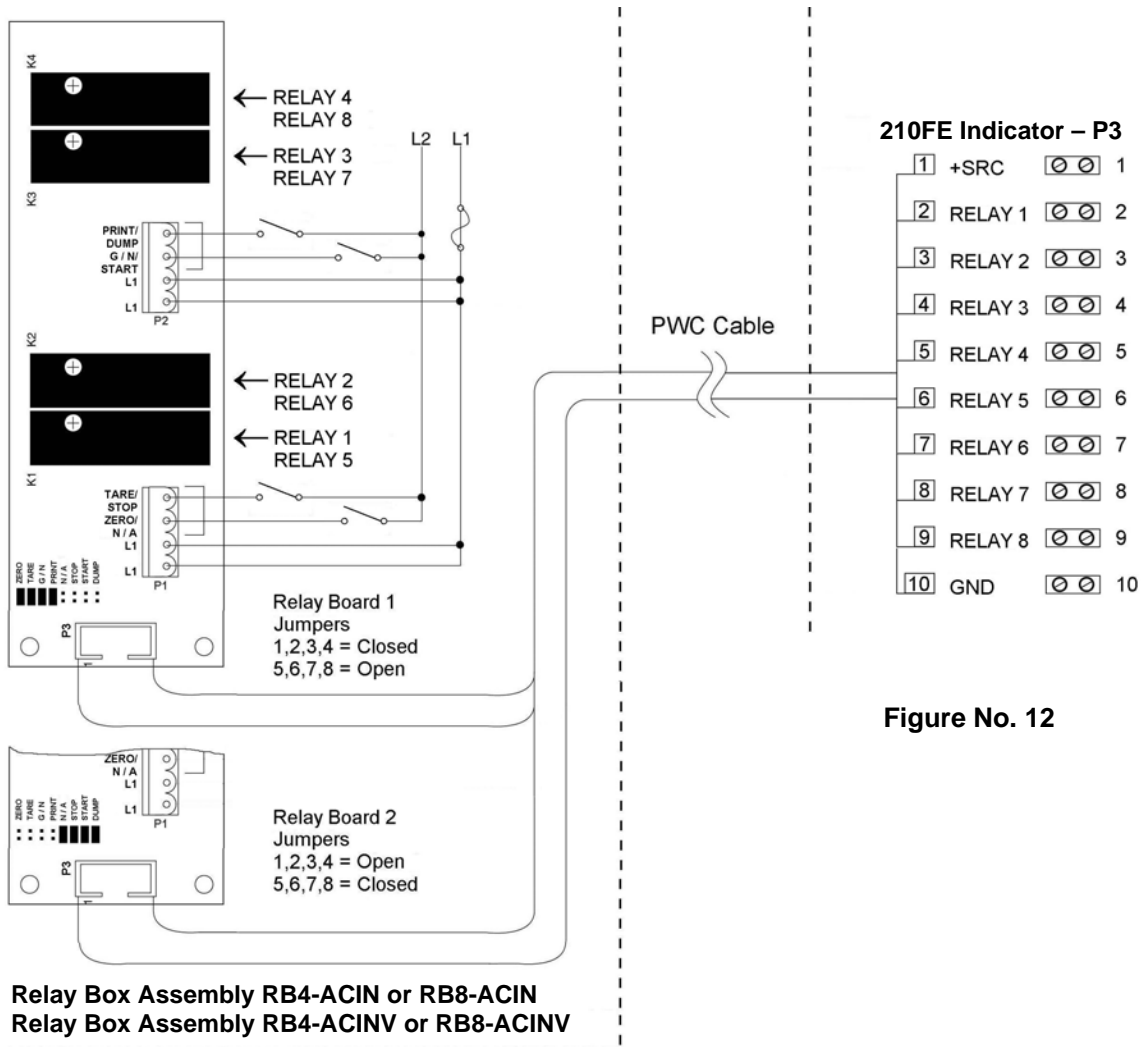
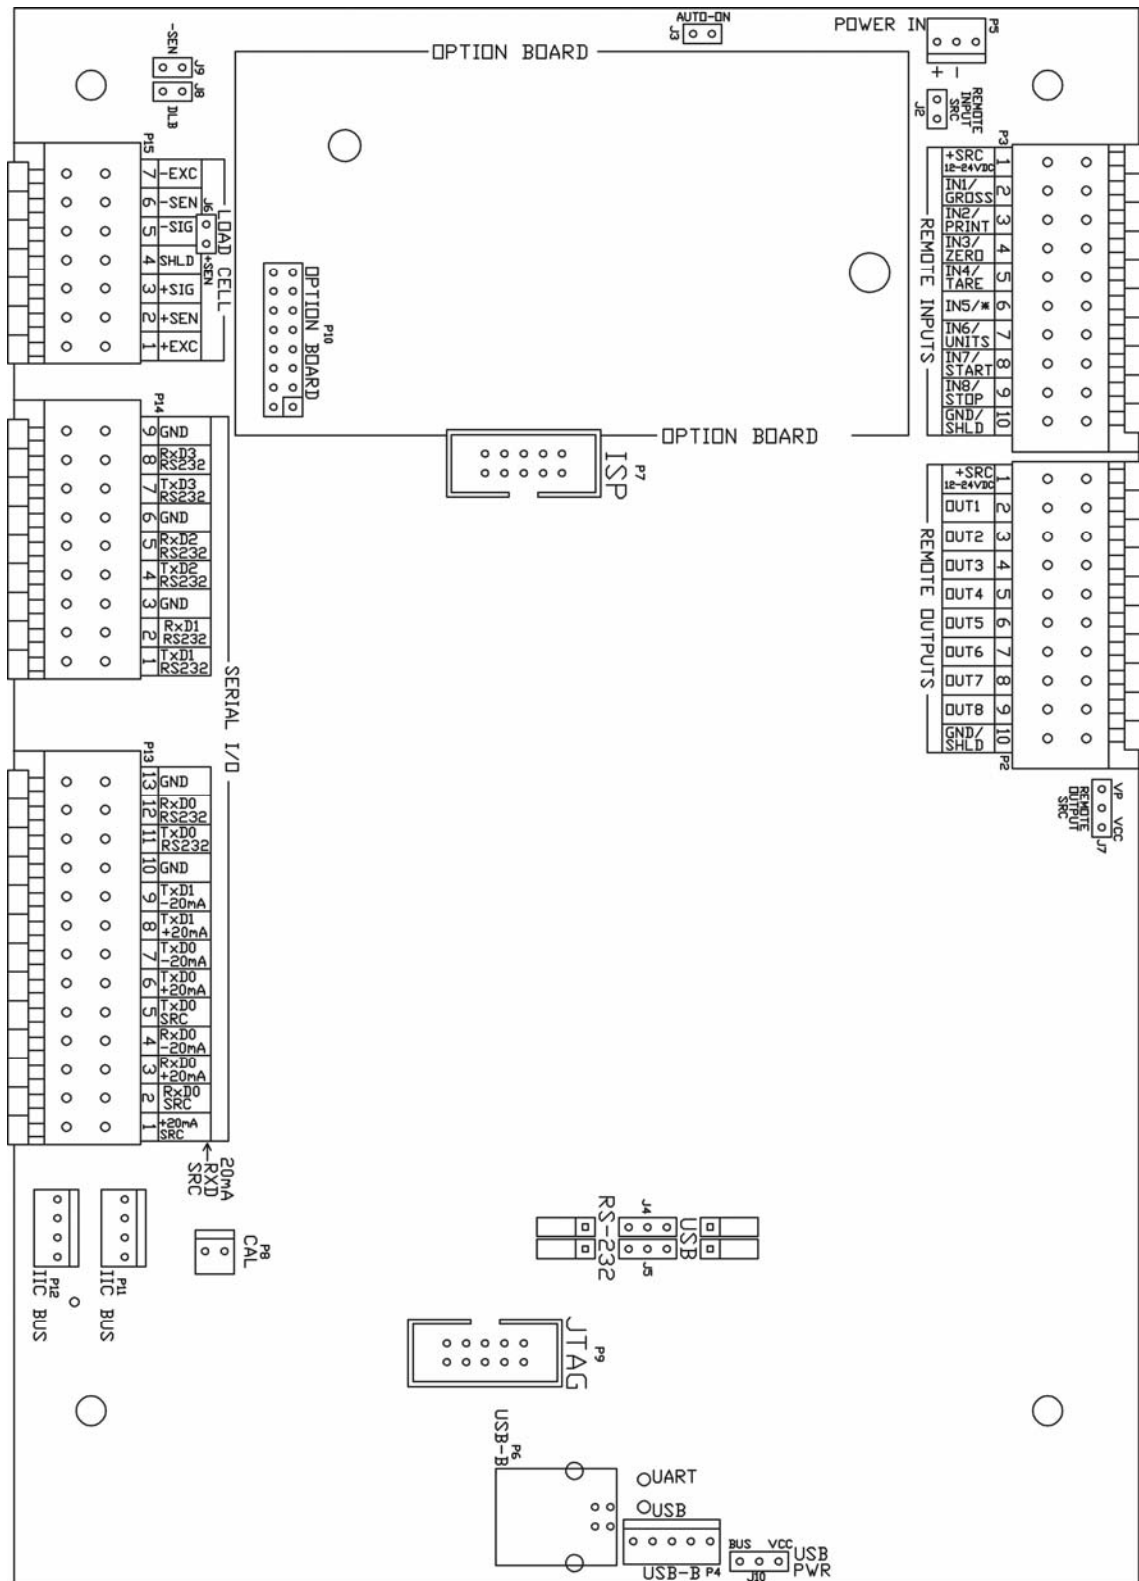

Figure No. 12
Figure No. 17
Refer to Figure No. 12 for the AC Input Relay board, Figure No. 13 for the AC Output Relay board, Figure No. 14 for the RB4C Relay board and Figure No. 17 for the Main PCB.
Included with the I/O are 4 programmable inputs that may be used to remotely (up to 100 feet) initiate various functions within the indicator. These inputs are accessed via a terminal block (P3) on the back of the PC board (see Figure No. 17). The 8 inputs are defined as follows:
The AC Input Relay Board(s) are mounted in an external junction box for use with the 210FE Indicator. The RB4-ACIN (115 VAC) or RB4-ACINV (230 VAC) contain one board and supports 4 inputs (jumper selectable). The RB8-ACIN (115 VAC) or RB8-ACINV (230 VAC) contain two boards and supports eight inputs that are jumper selectable. The relay board used in the 115 VAC versions is part number 8200-C324-0A. The 230 VAC version uses relay board part number 8200-C324-1A. Connect the devices as shown in Figure No. 12.
The Remote Output SRC jumper J7, when connected, allows the 210FE indicator to supply (source) VP (15VDC) or VCC (5VDC) to a solid-state relay or other load of 200 ohms or greater. The positive connection from the relays must be connected to the PWC connector pins and the negative wire from the relays to the GND pin. See Figure No. 17 for jumper and REMOTE OUTPUTS connector location.
6. Connect each of the wires to the REMOTE OUTPUTS terminal block (P10) referring to Figure No. 17 for terminal block locations.